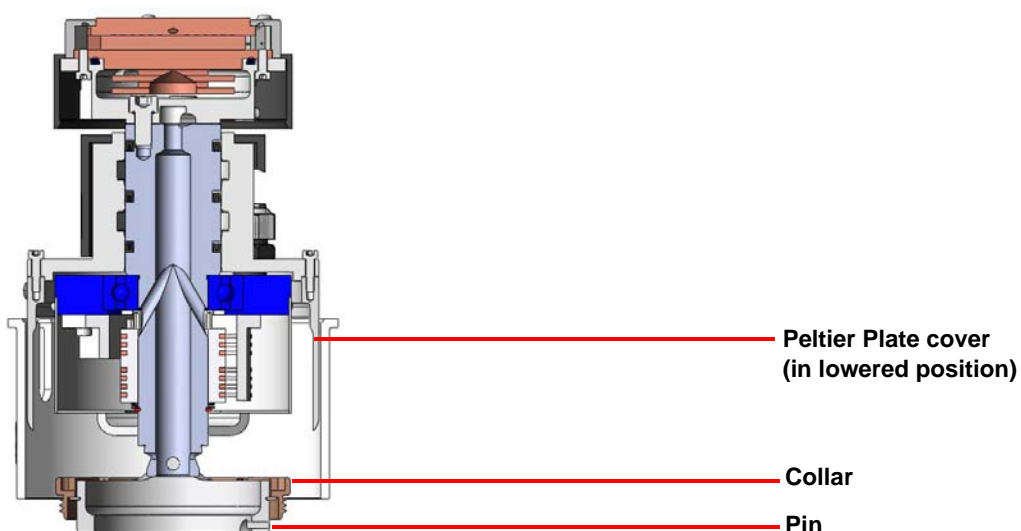

Figure 5 Peltier Plate alignment pin configuration (cross section shown for visibility)
- c Seat the pin machined into the bottom of the Peltier Plate (see Figure 5) into the notch in the motor housing (the pin and notch should be located toward the rear of the instrument). It may be necessary to rotate the Peltier Plate assembly back and forth until the pin falls into the notch.